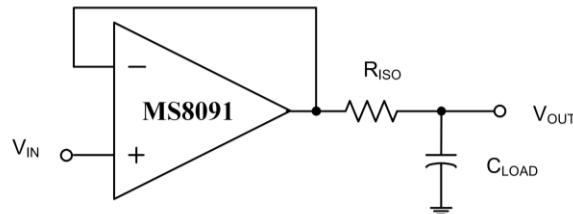

Figure 1. Series Resistor and Capacitive Load
The MS809x optimizes not only driving capacitive load, but also bandwidth and rate. Output capacitance would add a pole in the amplifier's feedback loop, which would result in excessive peak and possible oscillation. If there has requirement for driving capacitance in application, two schemes can be considered: (1) A small resistor is in series with amplifier's output and capacitive load . (2) Add overall noise gain to reduce the bandwidth of amplifier's feedback loop. Figure 1 shows a follower of unity gain using the series resistor way. The resistor separates the output from the capacitance, and it is more important than creating a zero in the feedback loop, which compensates for the pole of output capacitance.